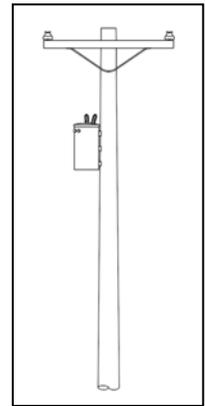

Figure 1 Overhead Transformer
- There is no transformer on the nearest pole (See Figure 1).